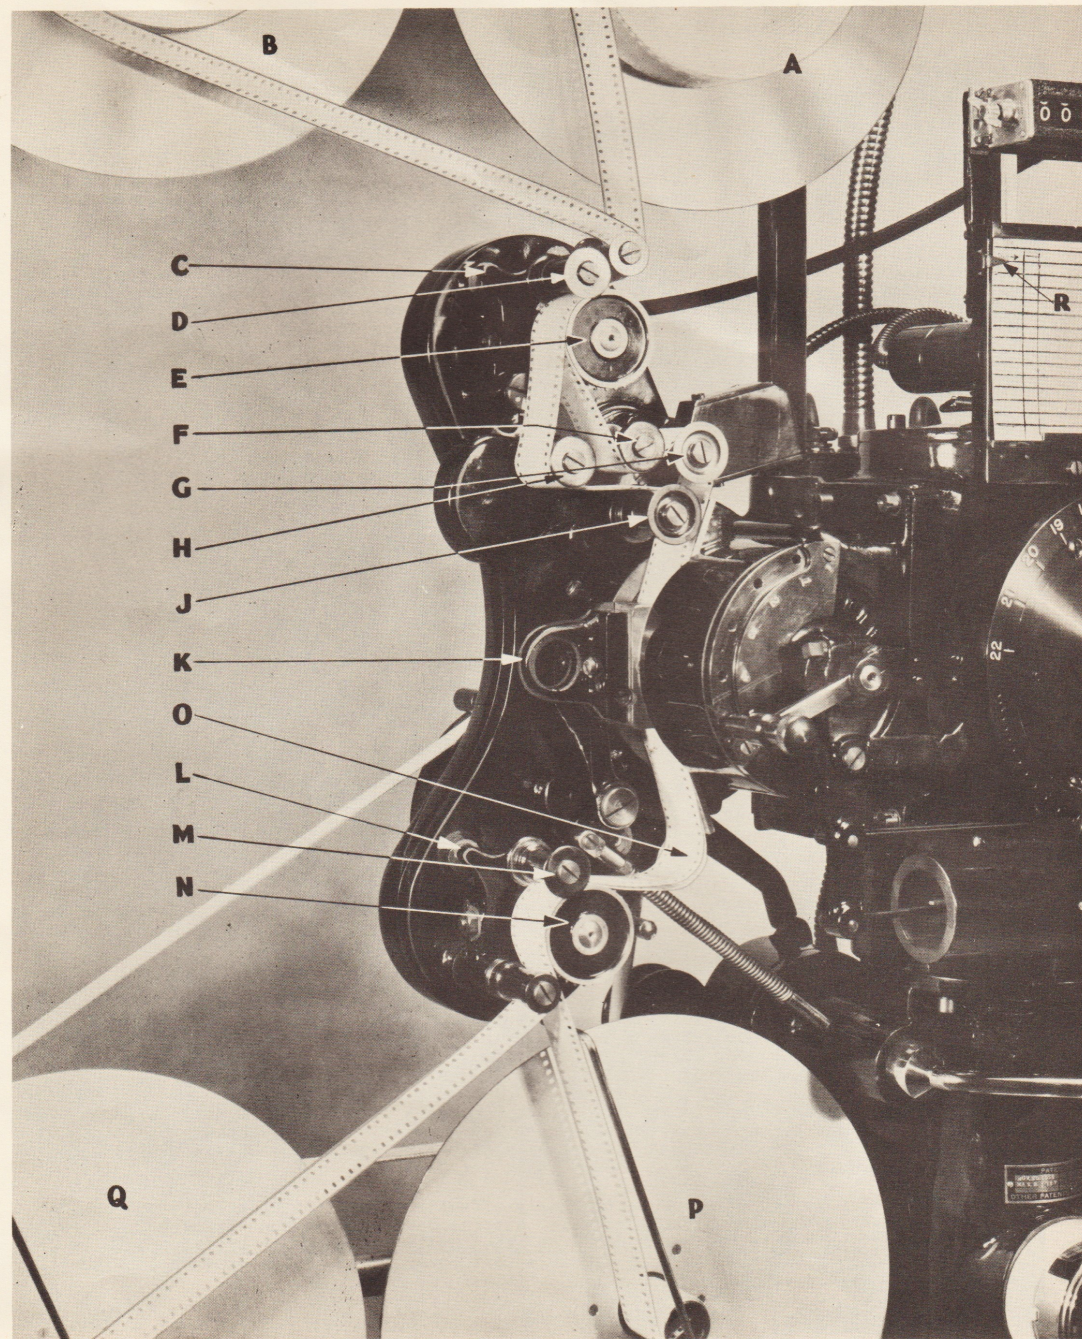

FIGURE 7 - THREADING OF FILM.
1. Figure 7 shows the printer fully threaded. Note that in the photograph two unprocessed films have been used to facilitate discerning the film paths. In actual practice the negative film would be black, and difficult to see on a photograph.
17. When the end of the negative roll passes the film gate K, figure 7, immediately turn off the interlocking switch and starting lever to stop the printing mechanism.